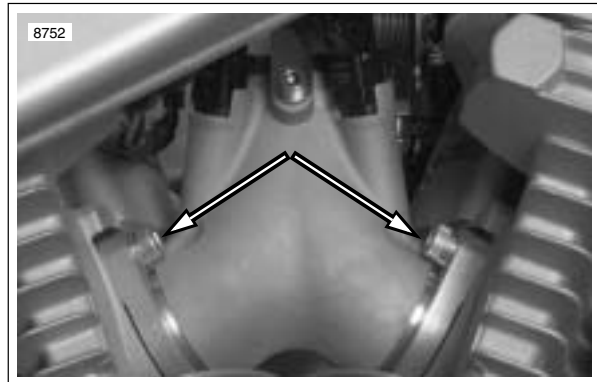

Figure 4-105. Intake Manifold Fasteners (gearcase cover side)
- c. See Figure 4-105. On gearcase cover side, remove both intake flange fasteners from cylinder heads.